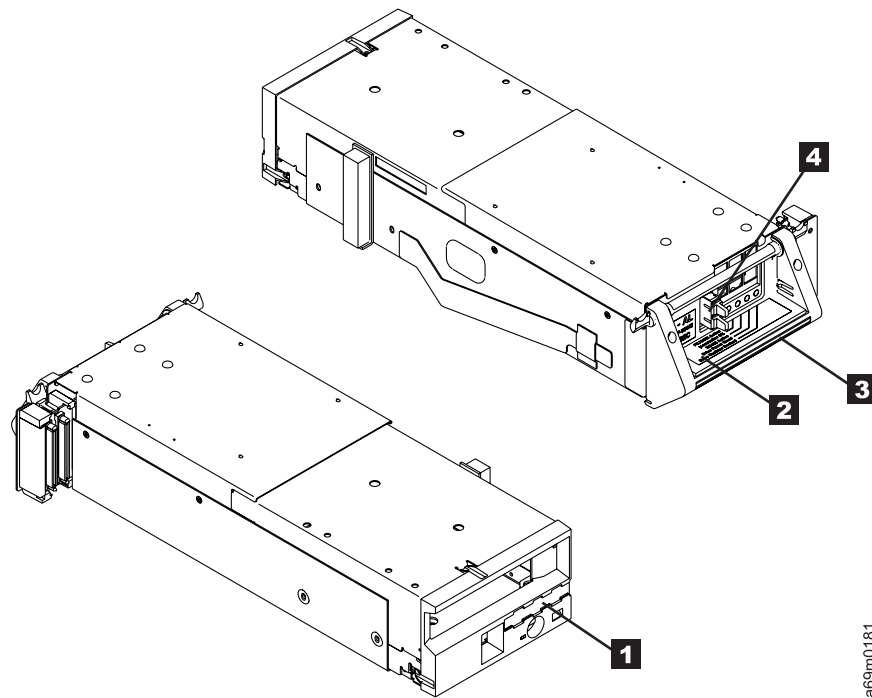

Figure 79. Removing and replacing a drive canister assembly - LTO fibre channel hot swap
5. Refer to Figure 79. Unplug the fibre cable.
- If a logical library label (see **4** in Figure 79 on page 329) is attached to the old drive, remove it from the old drive and attach it to the new drive.